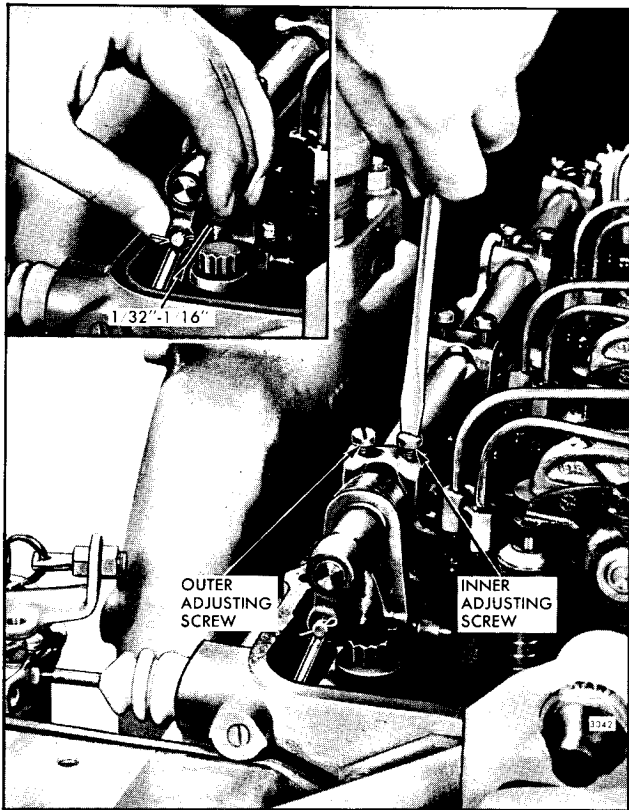

Fig. 3 - Adjusting Injector Rack Adjusting Screws
2. Adjust the injector rack adjusting screws on the rear cylinder until both screws are equal in height, see Fig. 3, and tight on the control tube.